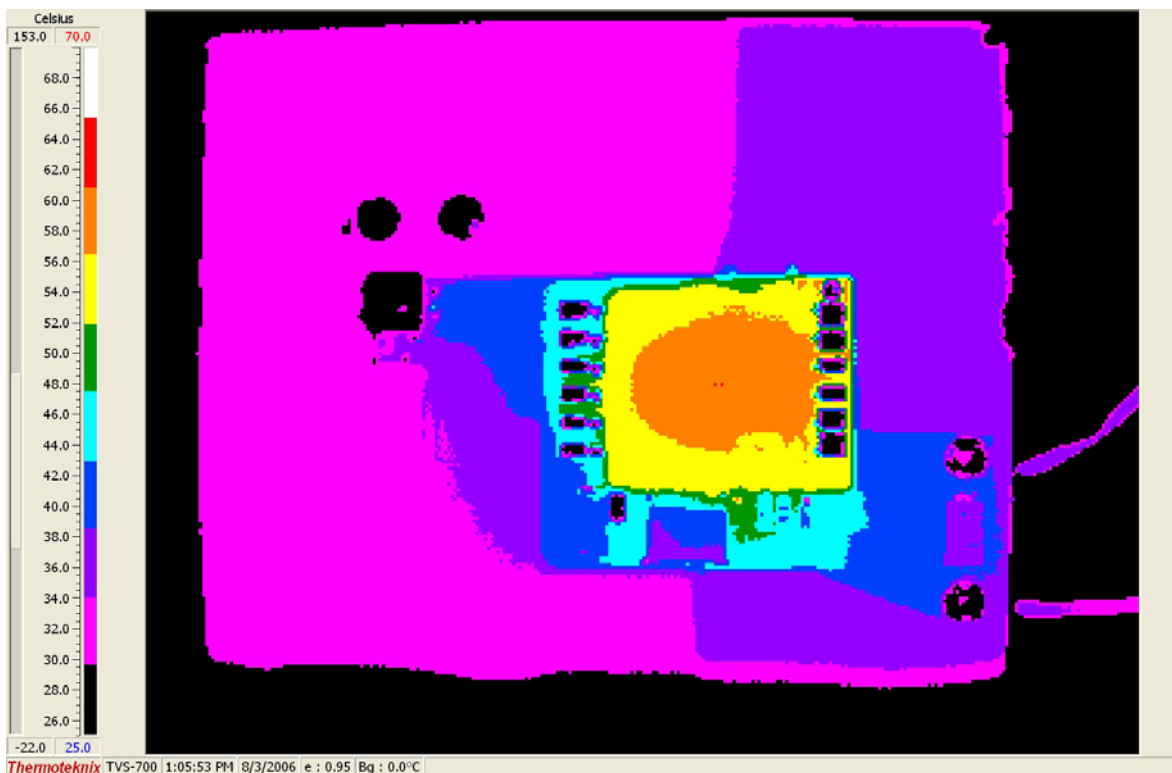

Figure 9. Temp Data (48Vin, 8A, no airflow – front)
The LT3825 controller exhibits a self-starting capability. When an input voltage is applied, a trickle charge resistor, R8, charges C10 (See Figure 9) to power V_{CC}. Then, the IC begins a controlled soft-start of the output voltage. As this voltage begins to rise, V_{CC} power is quickly taken over by T1, D2, and R7. When the soft-start period is over, the LT3825 then regulates output voltage by observing the pulses across the auxiliary winding of T1 during the flyback time. The Primary Gate drive (PG) and Synchronous Gate (SG) drive is then Pulse Width